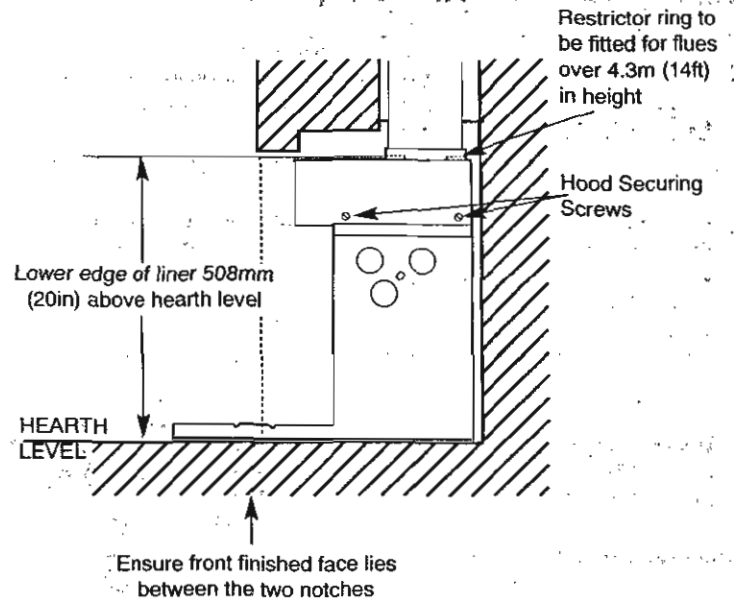

Fig. 4. Boiler in Builders Opening
### Fitting the boiler ( Fig. 4)
- Line the flue. Terminate the lower end of the liner at 508 mm (20in) above the finished hearth level and seal between the flue liner and chimney (Fig. 4).
5. Lift the boiler off the transit base, place the boiler in the builders opening, check that the front finished face lies between the notches on the sides of the boiler base (Fig. 4) and that the arrowhead cut out at the front is on the centre line of the hearth.